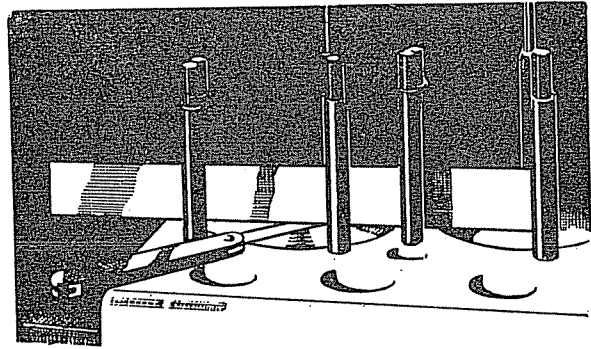

Fig. 13—Checking distance from crown of piston to face of cylinder block.
- (1) When the crank is at top dead-centre, the crown of the piston must not be less than .002 inch below the cylinder block face and preferably not more than .010 inch below block face. This must always be checked when assembling new pistons. The method is shown in Figure 13. If the piston stands higher than this, the crown must be reduced accordingly, if lower, that piston must be rejected if first class performance is required.